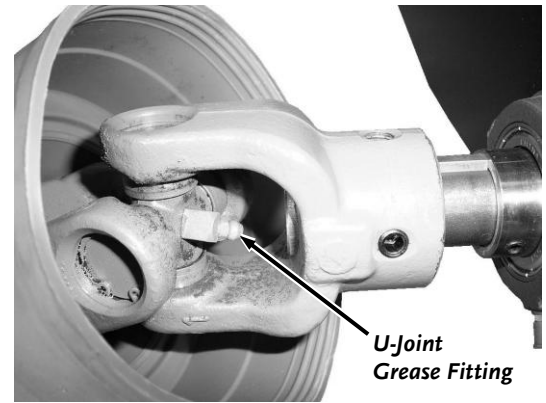

Figure 41
2. Apply no more than three pumps of quality general-purpose lithium grease with a hand-pumped grease gun to each of the two U-Joint Grease Fittings (**Figure 41**).